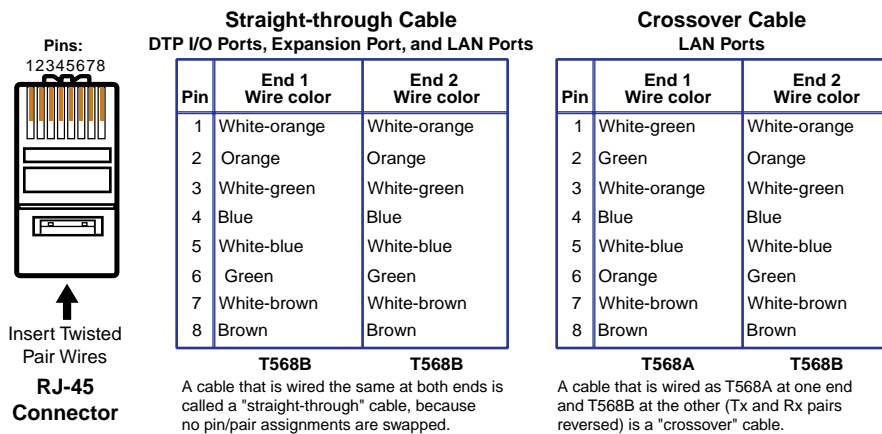

Figure 10. RJ-45 Connector and Pinout Tables
All RJ-45 ports, whether TP input and output ports, the Expansion port, and the LAN (Ethernet) ports on the IPCP control processor use twisted pair cables. It is essential that the TP cables for the DTP ports, Expansion port, and LAN (Ethernet) ports be the correct type and that they be properly terminated with the correct pinout. The TP cable can be terminated as a patch (straight-through) cable or a crossover cable and must be properly terminated for your application (see figure 10). All these cables are terminated with RJ-45 connectors. All TP cables are limited to a length of 330 feet (100 m).
- Terminate cables with shielded connectors to the TIA/EIA T 568 B standard only (patch cables, see figure 10 on the previous page).